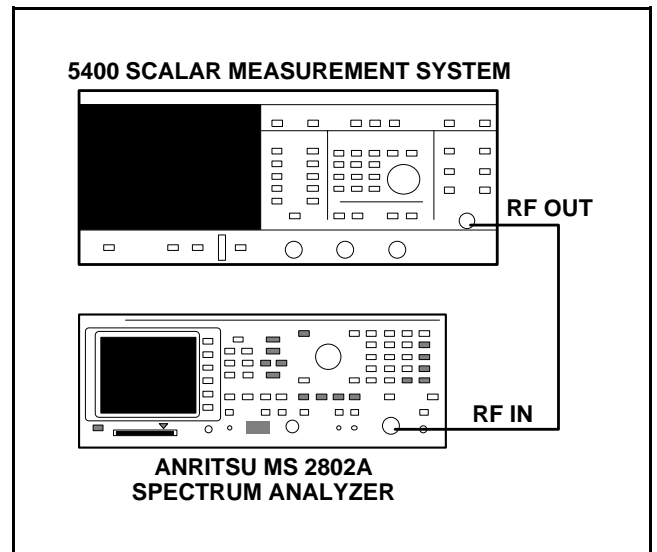

Figure 5-11. Equipment Setup for Source Output Signal Purity Test
1. Set up the equipment as shown in Figure 5-11, and turn the equipment on.